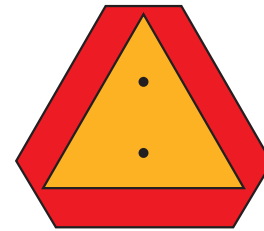

Figure 3-19: SMV Sign
10. Transport during daylight hours whenever possible. Always use tractor flashing warning lights, except where such use is prohibited by law. Make sure lights, reflectors and SMV emblem are clearly visible and operating. Remove any obstructions such as dirt, mud, stalks or residue that restricts view before transporting. **See Figure 3-19.**